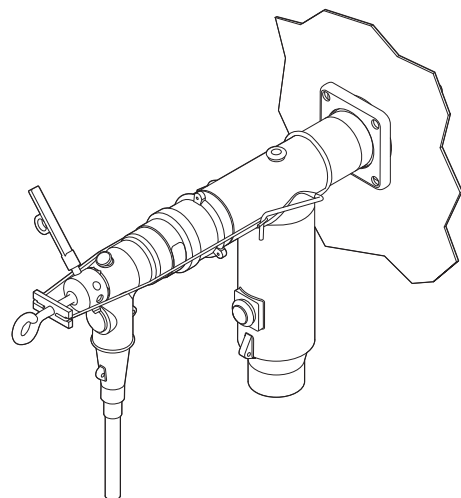

Figure 8. Lockin pin inserted into cup of CLEERBAIL. Locking pin passes through elbow's operating eye
- Insert the locking pin into the cup of CLEERBAIL to prevent unthreading of the eyebolt. The locking pin will pass through the grounding elbow's operating eye, and exit the cup on the opposite side of entry. (Refer to **Figure 8**).